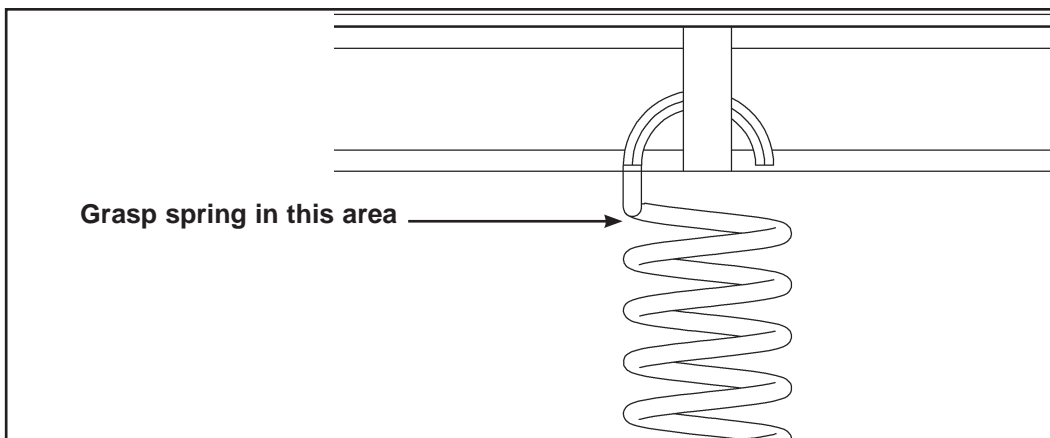

Figure 8
7. Connect upper end of each spring. (refer to 7A-D, Figures 8 and 9)